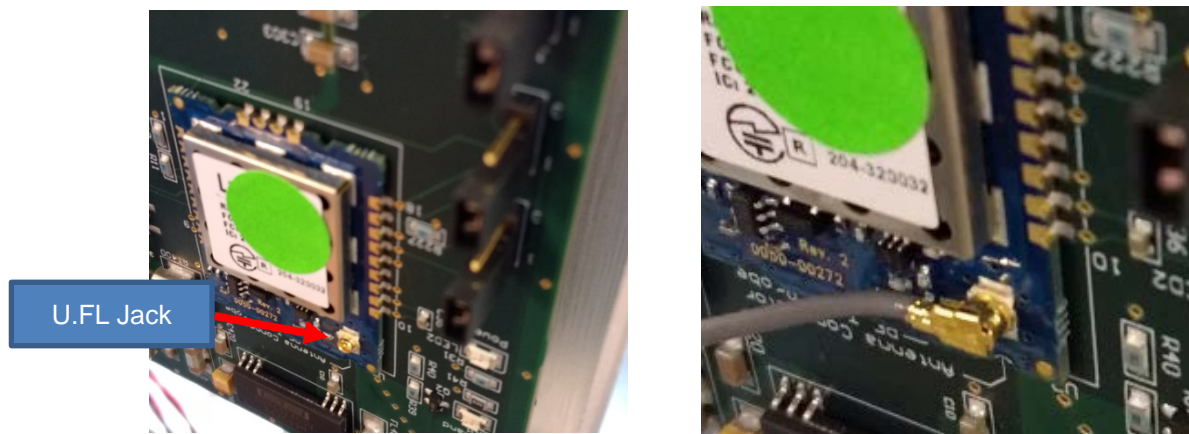

Figure 6 Antenna Connector
- 8 Connect the antenna cable to the U.FL on the wireless base board (Figure 6: Antenna Connector). Carefully center the connector on the jack and press the connector onto the jack until it snaps into place. Rotate the antenna cable to ensure the connector is firmly seated in the jack.